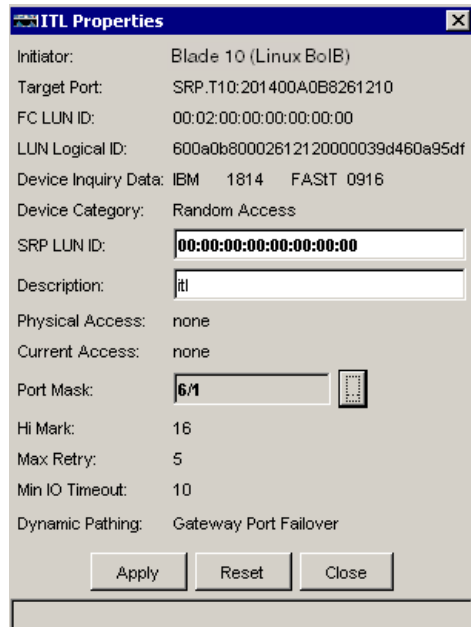

Figure 6-19 Verify Boot LUN ID = 0
4. Verify that the Boot LUN ID is 0 by selecting the boot LUN that was added in the preceding step and selecting ITL properties. Figure 6-19 opens with an SRP LUN ID=0.